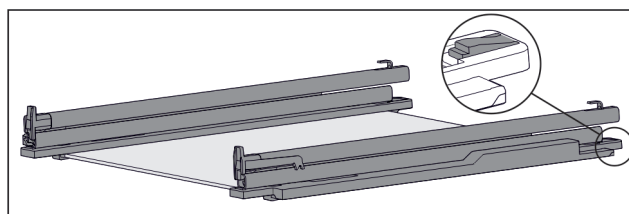

Fig. 132 Glass shelf with rails and retaining parts
- Press down retaining part at the rear (see Fig. 132) and at the same time push the rail back.